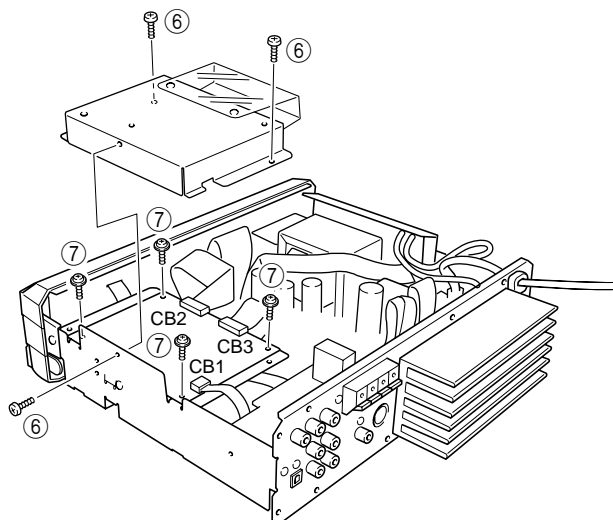

Fig. 4
- a. Remove 3 screws (⑥). (Fig. 4)
- c. Disconnect the flexible flat cable (CB1) from DIGITAL P.C.B. (1). (Fig. 4)
- d. Remove 4 screws (⑦) and then remove DIGITAL P.C.B. (1) from the DSP Bottom Cover. (Fig. 4)